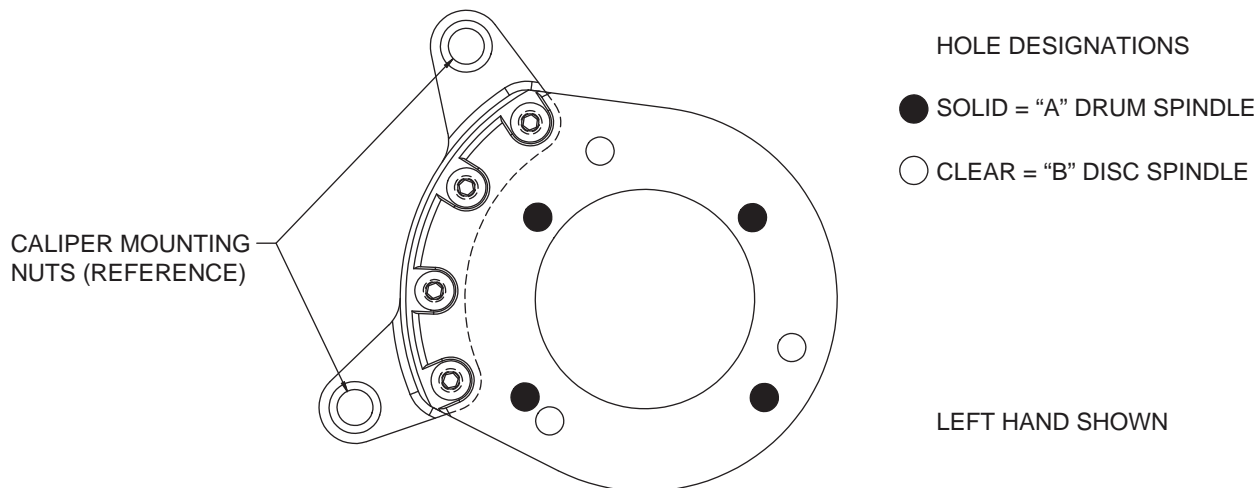
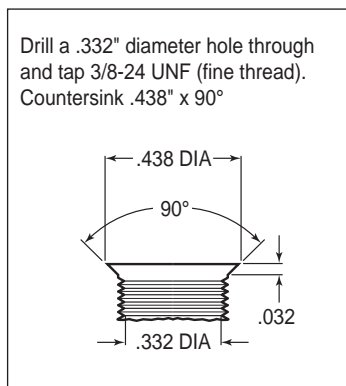

Figure 1. Wilwood Caliper Mounting Bracket
Figure 2. Drill and Tap Detail
This kit has been designed for use with both the disc brake or the drum brake configuration of vehicle. The only difference is in how the Wilwood caliper mounting bracket is installed. The same bracket is used for both configurations; the disc brake version utilizes three mounting holes while the drum brake application uses four mounting holes (see Figure 1). For your convenience we have supplied bolt kits for both applications (see parts list and Figure 4 as necessary). Use the bolt kit that is applicable to your vehicle and disregard the other one.
Using the caliper mounting bracket as a template (refer to Figure 1 as necessary), locate and verify the three original holes on the spindle that need to be modified. Drill a .332" diameter hole through all three holes, then tap 3/8-24 UNF (fine thread). Countersink the holes to .438" diameter x 90°, as shown in Figure 2.
**Assembly Instructions** (numbers in parenthesis refer to the parts list, and Figure 2 on the preceding pages): **CAUTION:** All mounting bolts must fully engage clinch nuts. Be sure to check that all bolts are either flush or protruding through flanged side of clinch nut after shimming, Figure 5.
•**NOTE:** This kit uses the same mounting bracket (1) for both the drum and disc brake spindles. The drum version, Photo 1, uses four mounting bolts (designated "A"), while the disc version, Photo 2, uses three (designated "B"). Refer to Figures 1 and 2 for the basic installation position of the bracket and the "A" and "B" reference designations (not physically marked on the brackets).
**For Drum Spindle:** Align bracket, using the four "A" holes, to the face of the spindle and attach using bolts (2A and 5), washers (3), and lock nuts (4), as shown in Figure 2. Ensure that the flanged heads of the clinch nuts in the bracket are facing outboard, Photo 1. Torque nuts to 30 ft-lb.
**For Disc Spindle:** Align bracket, using the three “B” holes, to the face of the spindle and attach using bolts (2B) and washers (3), as shown in Figure 2. Finger tighten. Ensure that the flanged heads of the clinch nuts in the bracket are facing outboard, photo 2. Remove bolts one at a time, apply red *Loctite*® 271 to threads, and torque to 40 ft-lb.
- Orient the rotor (11) and the rotor adapter (10) as shown in Figure 2 and Photo 5. Attach the rotor to the adapter using bolts (12). Using an alternating sequence, apply red *Loctite*® 271 to the threads, and torque to 25 ft-lb.
- Mount the adapter/rotor assembly (10/11) to the hub (7) using bolts (13), as shown in Figure 2 and Photo 6. Using an alternating sequence, apply red *Loctite*® 271 to the threads, and torque to 55 ft-lb.
- Pack the small outer bearing cone (14) with high temperature disc brake bearing grease and install into hub (7). Slide the hub/rotor assembly onto the spindle. Secure using spindle washer (15) and OEM spindle nut, Photo 7. Adjust bearings per OEM specifications. Install saved OEM nut lock (if any) and a new cotter pin (not included).
- Screw dust cap (17) into hub (7), Photo 8. Friction created by the o-ring (16) on the dust cap keeps it from unscrewing. **NOTE:** The O.D. of the existing OEM spindle washer may be larger than the I.D. of the dust cap not allowing it to seat against the hub face. Therefore, use the spindle washer (15) supplied with the kit instead of the OEM washer.
- NOTE:** Please reference the caution statement at the beginning of the assembly instructions. Mount the caliper (18) onto the caliper mounting bracket (1) using bolts (20) and washers (19), as shown in Figure 2. Initially place two .035” thick shims (21) on each bolt between the caliper and the bracket, Photo 9. Temporarily tighten the mounting bolts and view the rotor (11) through the top opening of the caliper. The rotor should be centered in the caliper, Photo 10. If not, adjust by adding or subtracting shims between the bracket and the caliper. Always use the same amount of shims on each of the two mounting bolts. **NOTE:** The end of each bolt must be flush with or slightly protruding from the head of the clinch nut, as shown in Figure 5. If necessary place spare shims between washer (19) and caliper